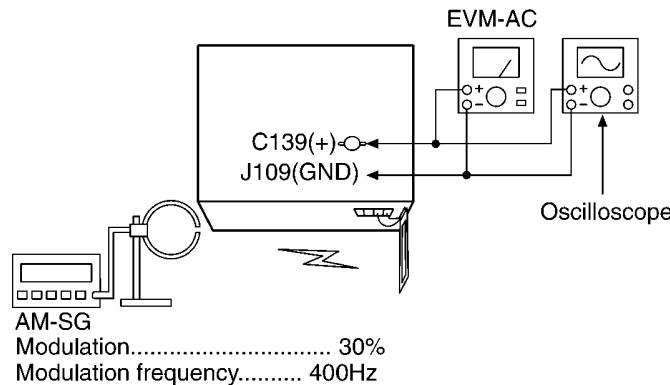

Fig.1
1. Connect the instrument as shown in Fig.1.
3. Apply signal as shown in Fig.1 from AM-SG.